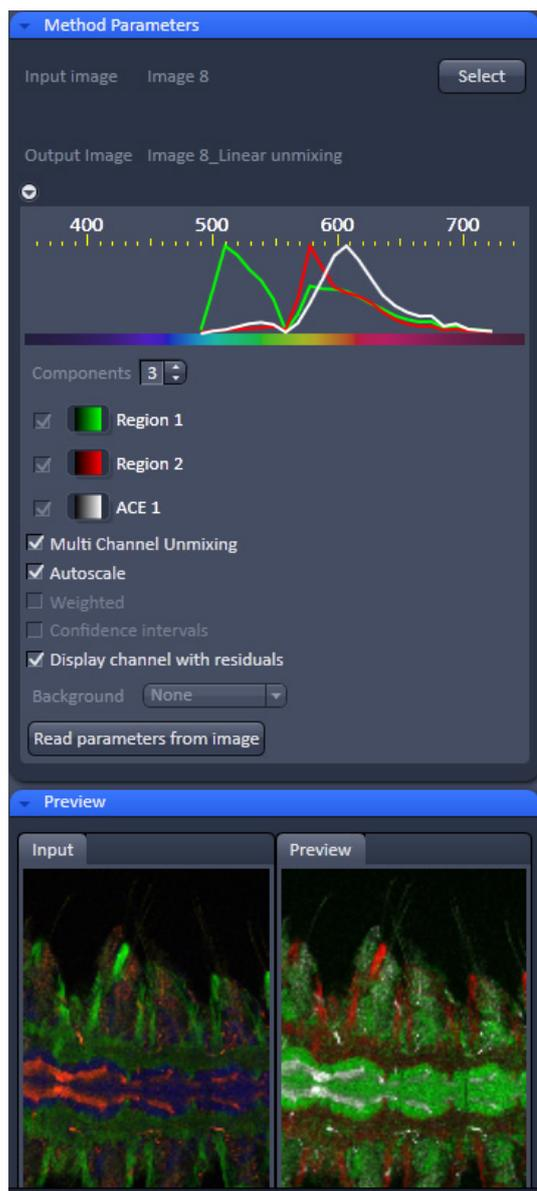

Fig. 146 Linear unmixing panel
- In the **Linear unmixing** panel (Fig. 146), the number of spectrally distinguishable fluorescent components within the imaged sample can be selected from the **Components** selection box. The number of extractable components cannot be higher than the number of acquired channels. The ZEN software is limited to a maximum of 10 components.